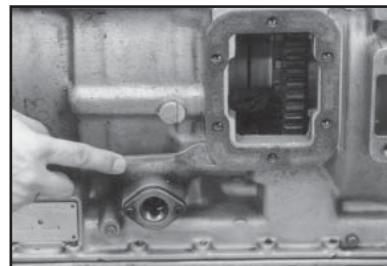

Figure 4
2. Discard the cover plate and cover plate gasket, then clean the aperture pad using a putty knife or wire brush (**Fig. 4**).